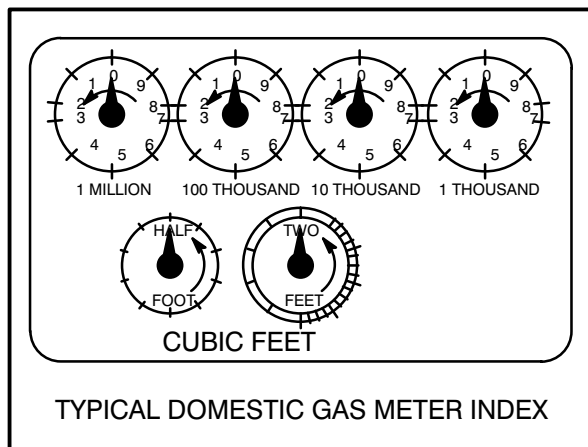

FIGURE 9
2. Using either the 1/2 cu. ft. or the 2 cu. ft. dials located on the gas meter, note the time it takes the indicator to complete one revolution. See FIGURE 9.